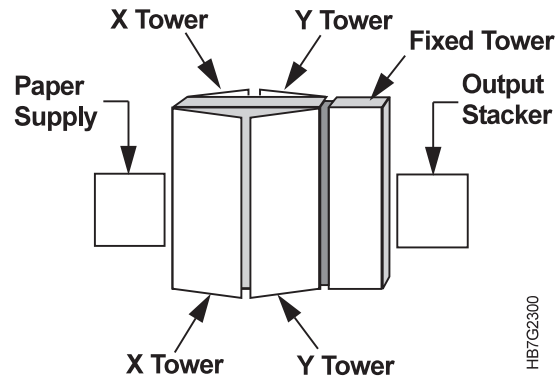

Figure 265. Right Side View of the InfoColor 70
- 2 Open the X and Y tower doors, as shown in Figure 265, at the sides where the bottles to be replaced are located.